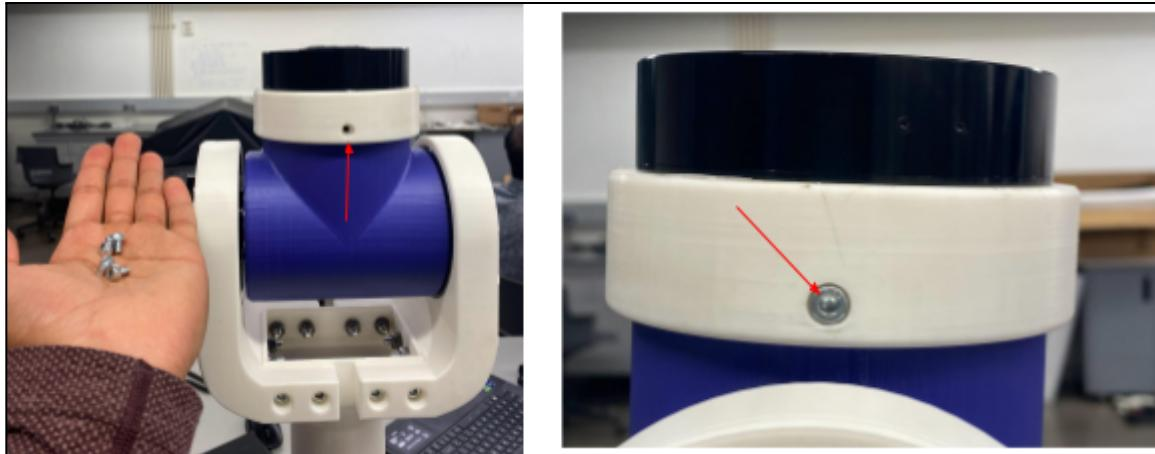

Figure 39: J4 Motor Assembly to J3 Cylinder
- Obtain four M4 x 6mm Allen wrench screws and use them to securely fasten the J4 Motor Holder to the J3 Cylinder. See Figure 39.